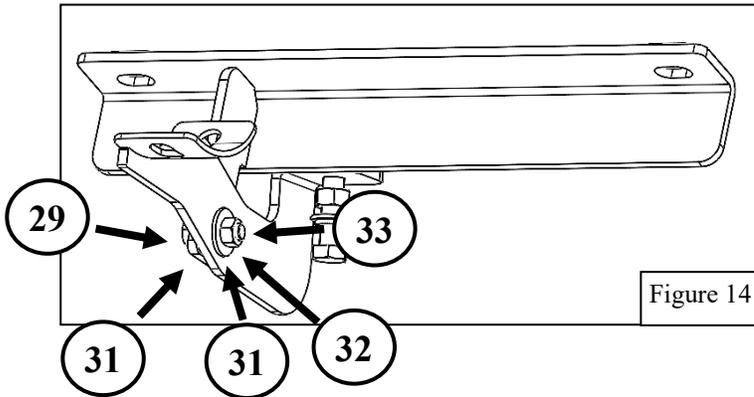

Figure 14
15. Next, attach the Driver Center Bracket (Item 5) to the driver center support bracket using one M8 hex bolt, two M8 flat washers, one M8 lock washer, and one M8 hex nut (**Fig 14**).